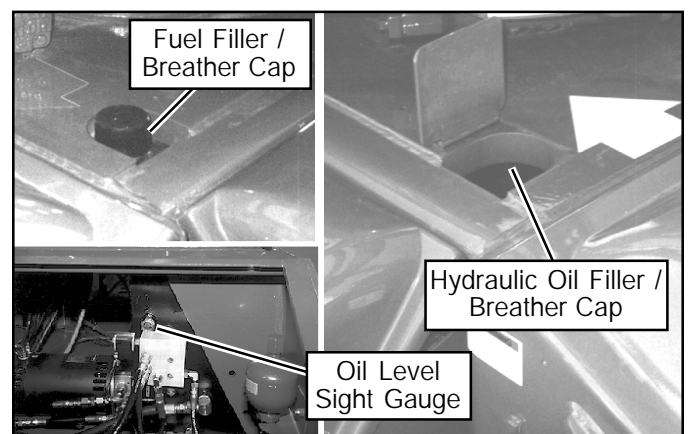

Figure 2-9: Hydraulic Oil Filler / Breather Cap, Fuel Filler / Breather Cap, and Oil Level Sight Gauge
2. Lift flap located on top of chassis left side (see Figure 2-9).